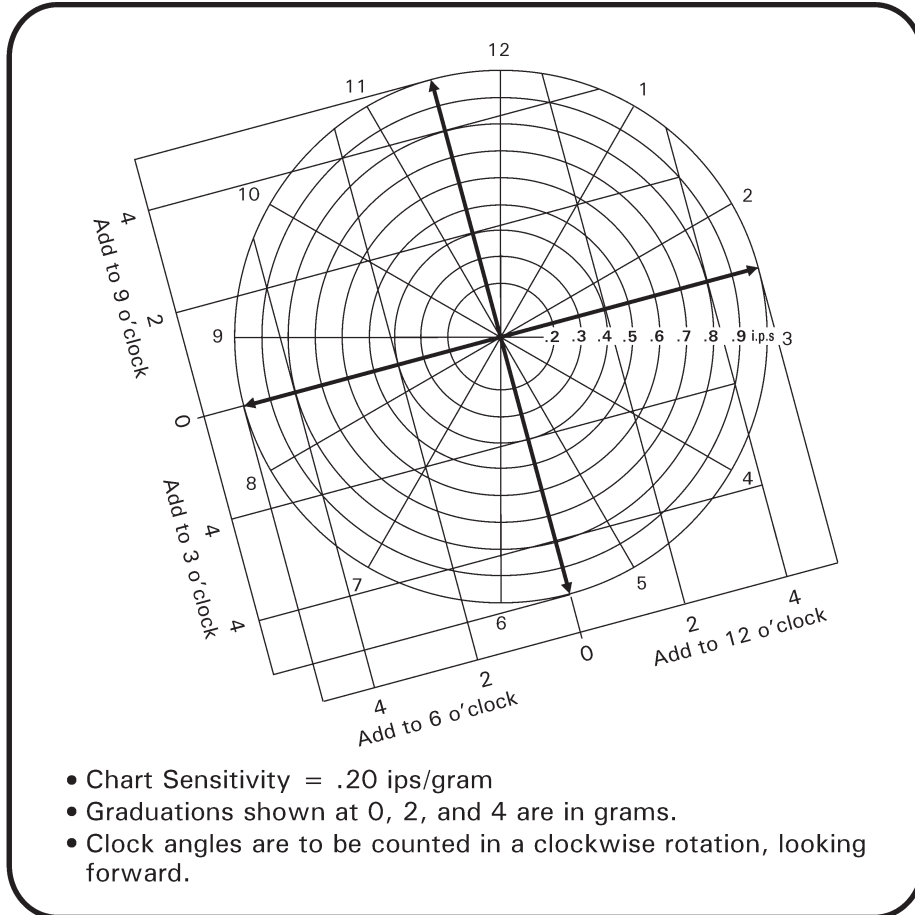

FIGURE 1
2. Remove F642-1 or F642-6 shaft per R66 Maintenance Manual (MM) § 63-10 and install F642-7 shaft per MM § 63-10. See note below for new hardware included with kit.
3. Balance shaft per MM § 18-70 in conjunction with chart in Figure 1.